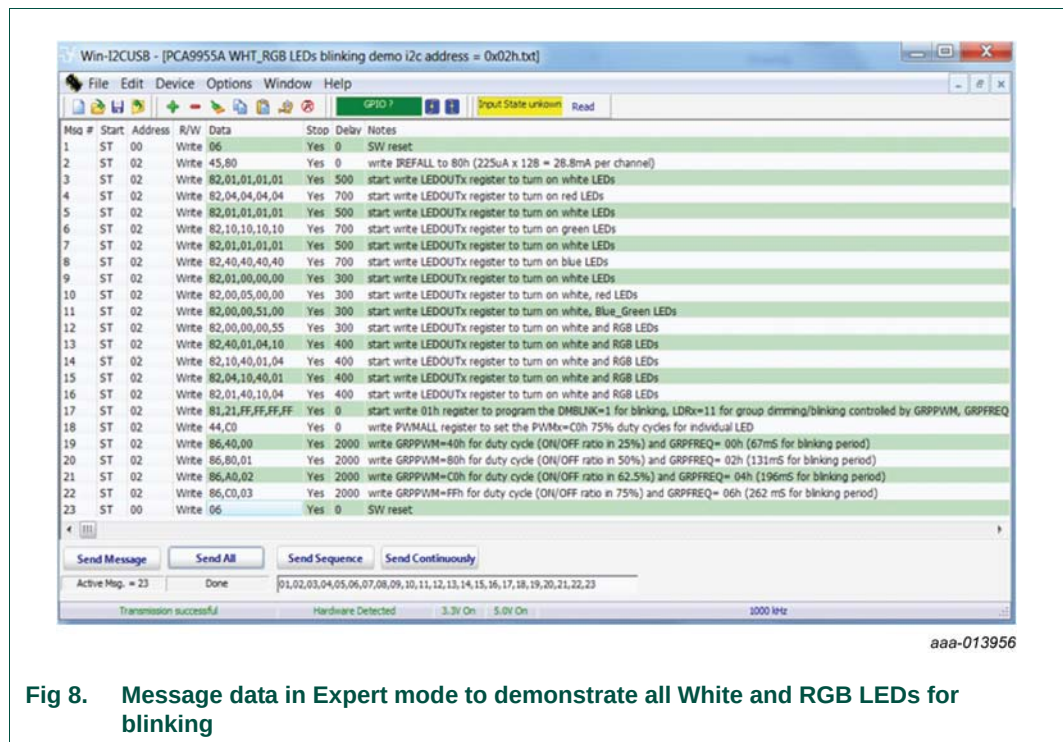

Fig 8. Message data in Expert mode to demonstrate all White and RGB LEDs for blinking
- After opening the 'PCA9955A/B WHT_RGB LEDs blinking demo i2c address = 0x02h' text file, the Win-I2CUSB GUI in Expert mode screen will be displayed as shown in Figure 8.